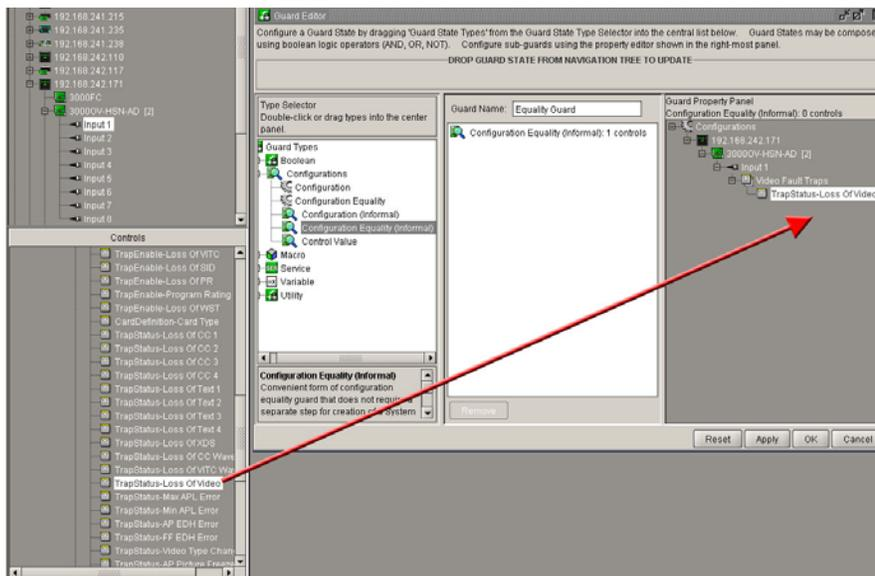

Figure 4-12: Dropping Controls from Control Selection to Guard Editor
3. Select the desired control from the *Control Selection* panel and drag and drop the control into the Guard Editor right most column. This would be the property area for the selected item in the Guard component list. Figure 4-12 illustrates where the control parameter should be placed.